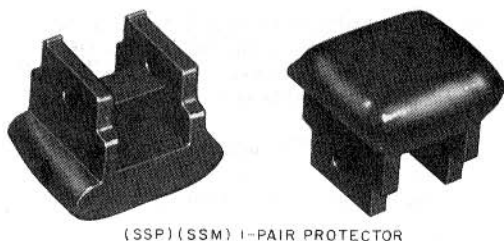

Fig. 5—AT-8660 F Clip Terminal Insulator
**2.08** The AT-8660 F clip terminal insulator (Fig. 5) is used to mark special service circuits requiring Special Service Protection or Special Safeguarding Measures. The F clip terminal insulator